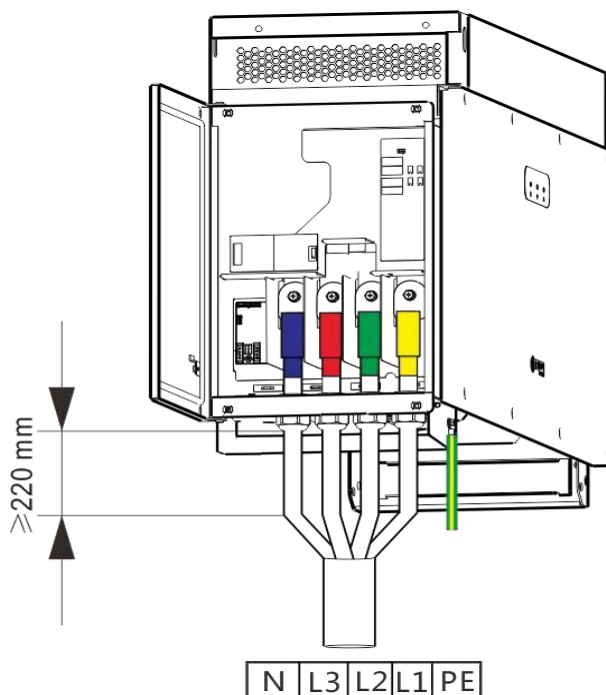

Figure 3-5 AC side cable lock
- (1) Remove the AC side cable lock and remove the end plug;
- (2) Lead the cable through the waterproof cable lock, as shown in Figure 3-5.